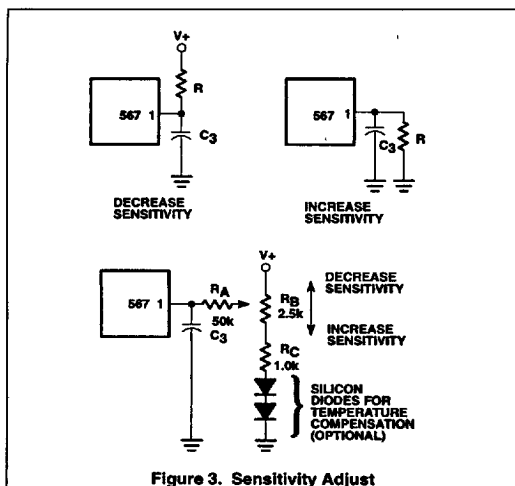

Figure 3. Sensitivity Adjust
**OPTIONAL CONTROLS** (Figure 3)
**SENSITIVITY ADJUSTMENT** (Figure 3)